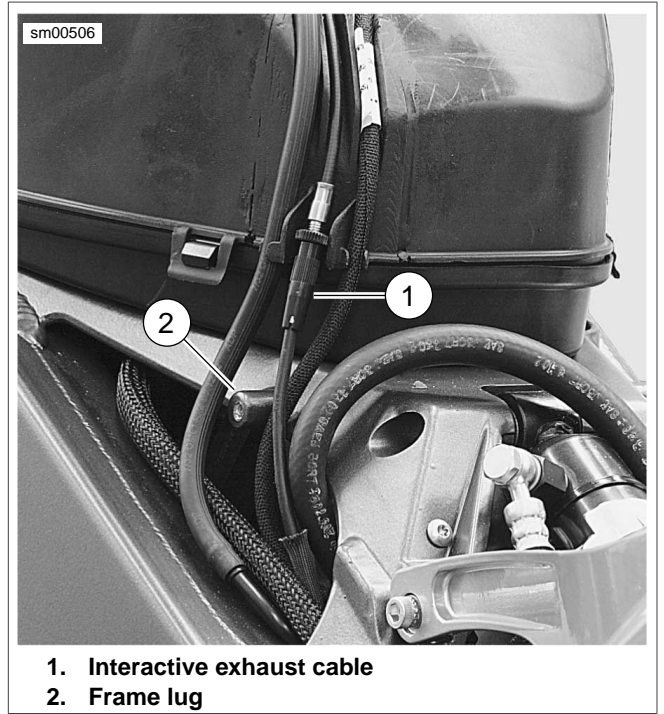

Figure 1-47. Correct Cable Routing Behind Frame Lug (Typical)
11. See Figure 1-47. Verify that the interactive exhaust cable (1) is routed behind the frame lug (2) before installing air intake cover.